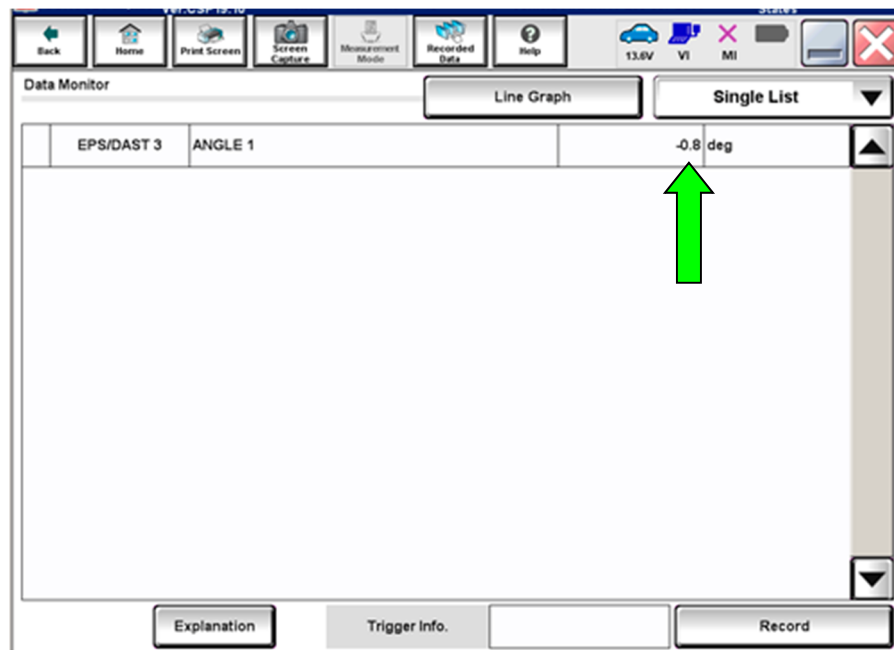

Figure 10
36. With C-III plus in **Diagnosis (All Systems)**, select **EPS/DAST 3 > DATA MONITOR > ANGLE 1**, and then check the value of **ANGLE 1** (see Figure 10).